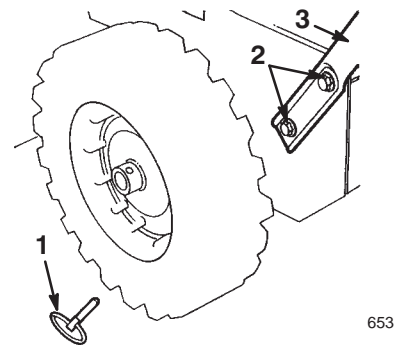

Figure 2
2. Remove the axle pins from both wheels (Fig. 2) and slide the wheels outward on the axle approximately one inch (2.5 centimeters).
4. Position the left side of the handle assembly against the left side of the snowthrower, align the handle mount holes with the holes in the side plate, and secure the left side of the handle assembly with 2 bolts and curved washers until they are finger tight (Fig. 2).